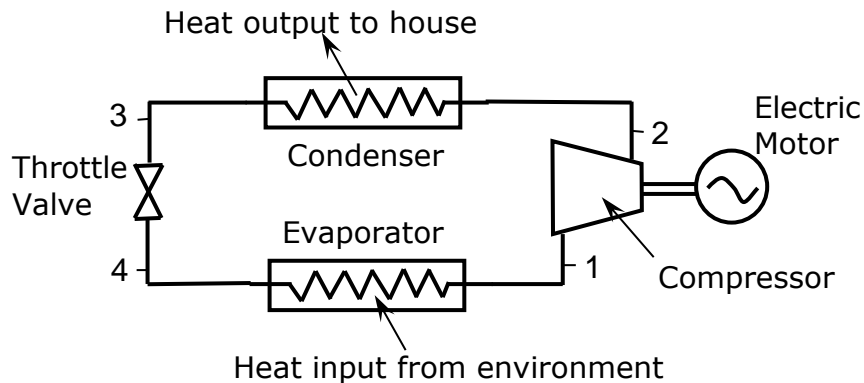

Figure Q4.
4. A heat pump as shown in Figure Q4 is used to provide heating for a house. The outside air temperature is  $7^{\circ}\text{C}$  and the temperature inside the house is  $19^{\circ}\text{C}$ . The heat pump operates with working fluid R134a. The saturation temperature in the evaporator is  $0^{\circ}\text{C}$  and the saturation temperature in the condenser is  $40^{\circ}\text{C}$ . At the outlet from the evaporator the fluid is a dry saturated vapour. At the outlet from the compressor the fluid vapour has 20K of superheat. At the outlet from the condenser the fluid is a saturated liquid. The electric motor has an efficiency of 90%.